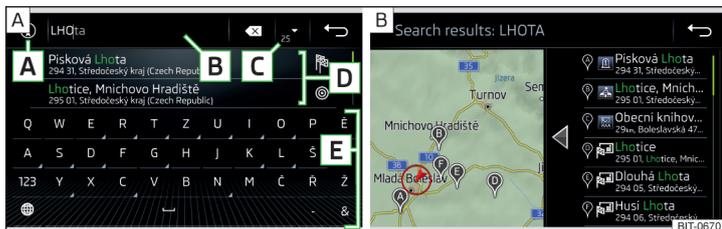
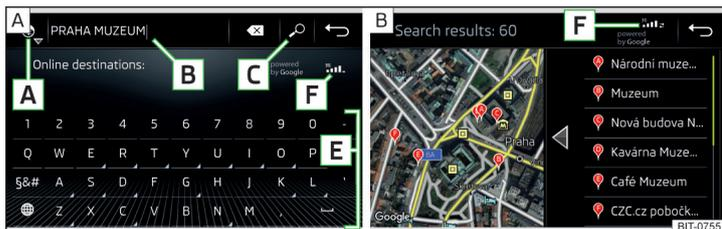

Fig. 199 Destination search: Main menu / list of visited destinations
Fig. 200 Find destination online: Main menu / list of visited destinations
› The function surface  » Fig. 199 → .
› To display the visited destinations, the function surface  ▾ » Fig. 199.
› The function surface  » Fig. 200 → .
› To display the visited destinations, the function surface  ↻ » Fig. 200.
Description of the functional surfaces » Fig. 199 or » Fig. 200
▾ - View a list of visited locations corresponding to the entered characters » Fig. 199 -
↻ - View a list of locations visited online, corresponding to the entered characters » Fig. 200 -
▶ **Find** - Destination / POI search » Fig. 199
In the menu for finding destinations in  » Fig. 199 on page 177, a short list of the most recent destinations is displayed.